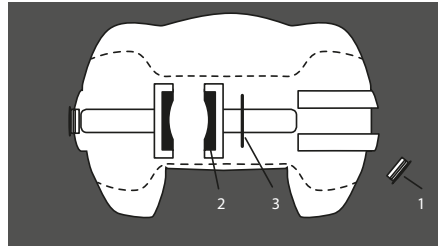
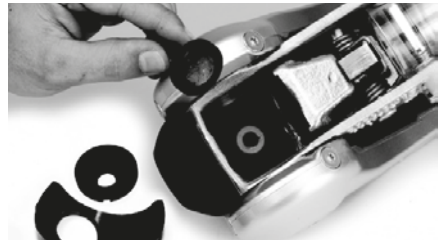

Figure 14 Remove worn pads
Figure 15 Insert new pads
2. Remove protective caps (see Fig 14 below - Item 1) with the aid of a small screwdriver.
3. Press worn out pad inwards and remove (use punch and hammer) (Fig 14 - Item 2).
4. Insert new friction pad from below (after first re-inserting shim washers if they were present) and press in as far as it will go (Fig 14 below - Item 3 and Fig 15).